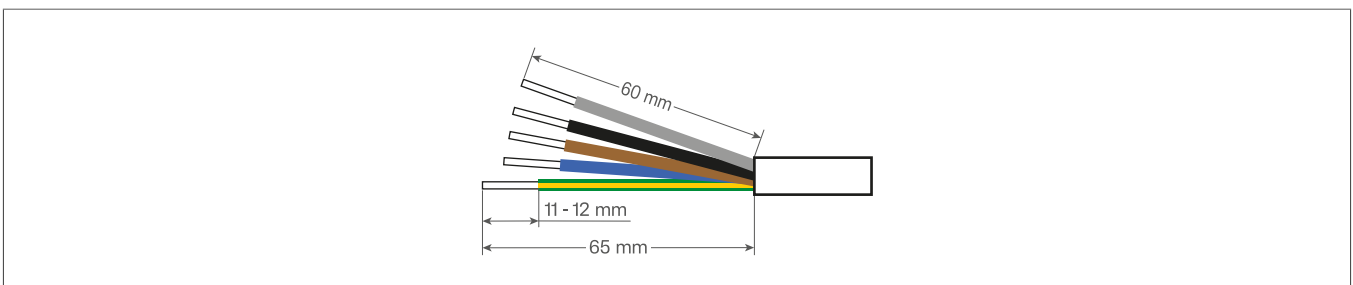

Fig. 21: Stripping the cable
- ① Terminal block
- ② Housing
- ③ Sealing
- ④ Union nut
- ⑤ AC cable
- ① Unscrew the AC plug-in connector and have the individual parts ready for assembly.
- ② Slide the union nut (4), seal (3) and housing (2) onto the cable (5).
- ③ Strip the outer sheath from the cable and strip the individual cores (see Fig. 21).